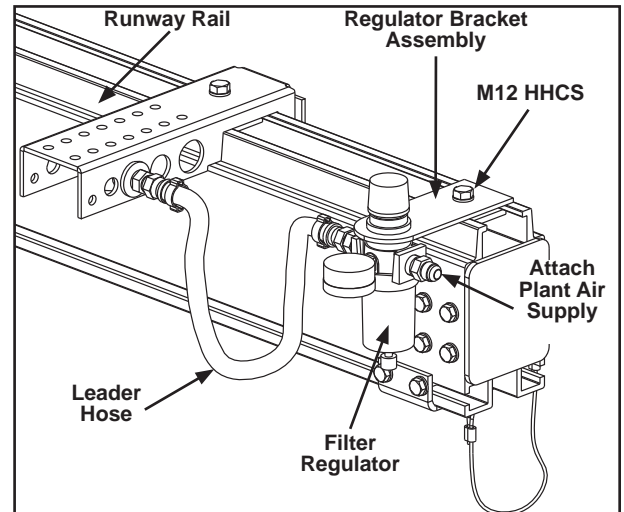

Figure 3-109
- a. Start at runway rail end closest to plant air supply. Loosen M12 HHCS and slide regulator bracket on to runway rail top channel. See Figure 3-109.
- d. Attach plant air supply to "in" port on filter regulator. Use at least one (12) in (305 mm) of hose between regulator and plant hard pipe.